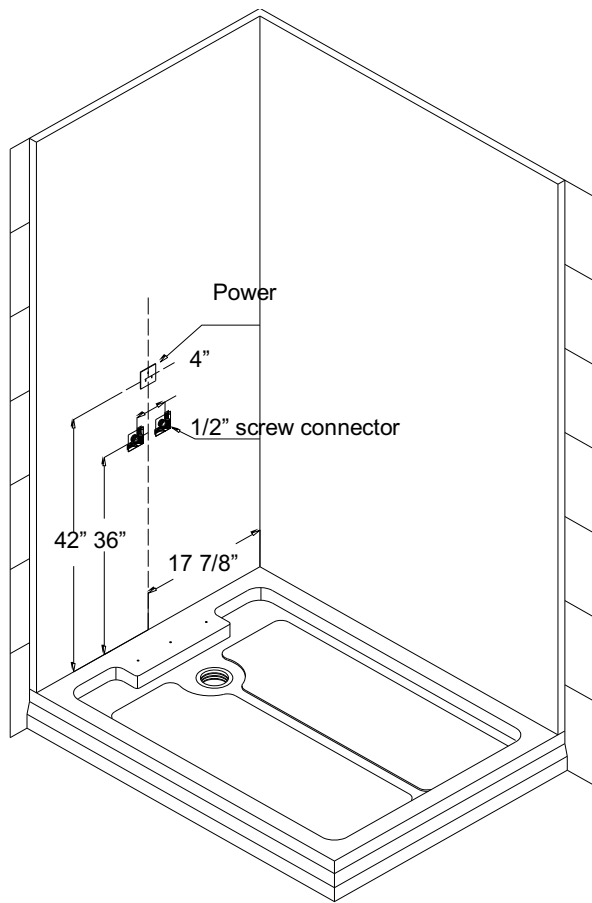

Fig. 7
(Note: Figure 7 shows water and power location for the Shower column to be installed on the left side of the tray left side installation.)
**Finish the walls with tiles or other decorative materials before continue installation.** See Fig 7 for details.